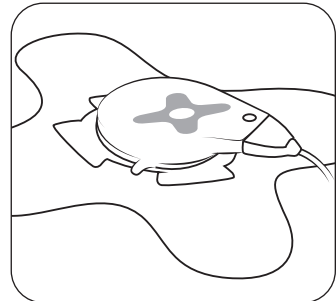

figure 9C: Press Applicator Down
- C. While continuing to support the edges of the cup, firmly press the applicator down onto the center of the gel cup until a clicking noise is heard or clicking sensation is felt (Figure 9C).